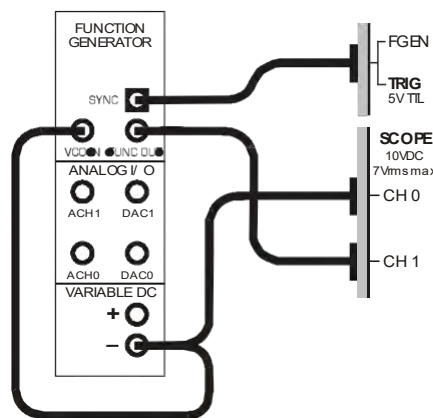

Figure 3
13. Connect the set-up shown in Figure 3 below.